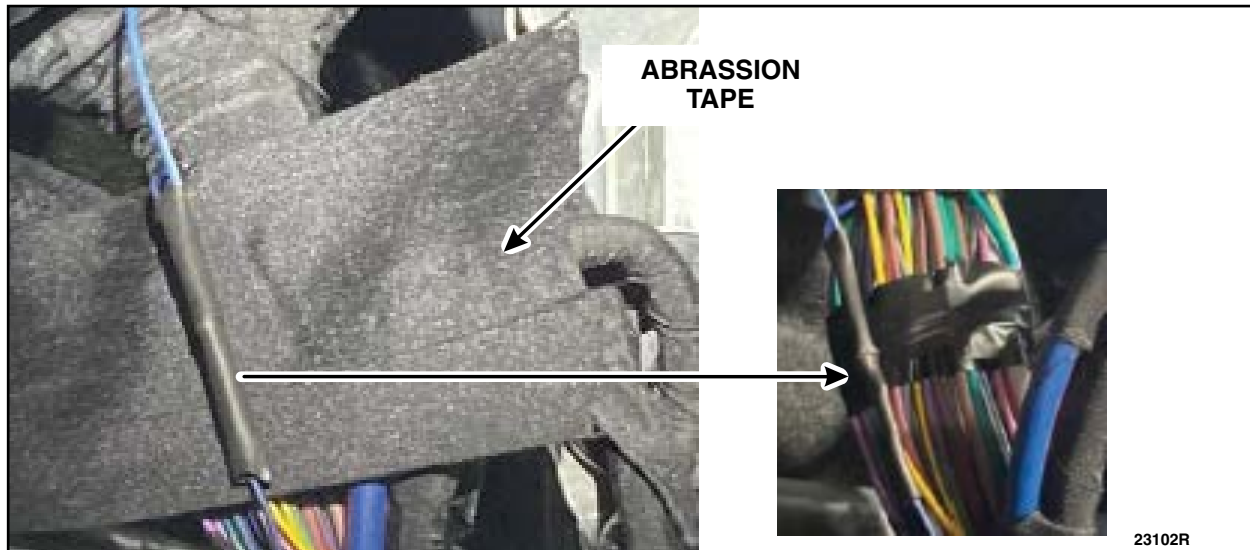

FIGURE 17
20. Protect the wire bundle from heat, position the heat-shrink in place and secure. See Figure 17.